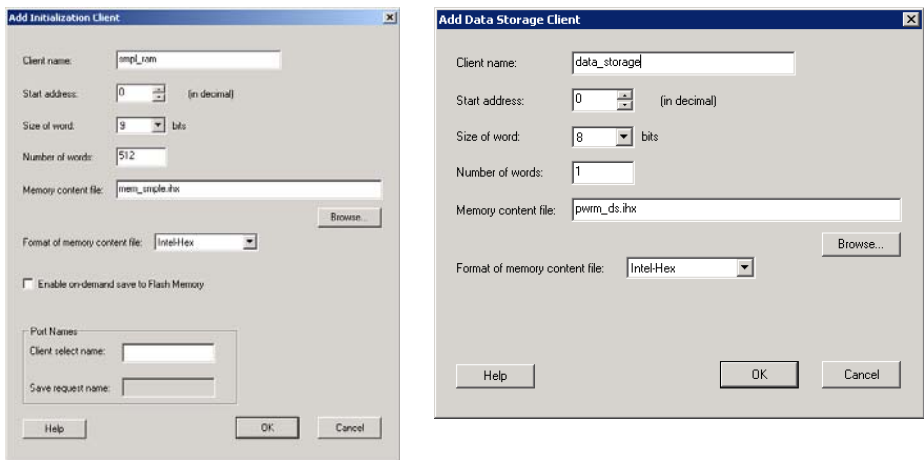

Figure 1-18. Add Initialization/Data Storage Client Dialog Boxes
3. Enter your parameters (as shown in Figure 1-18 on page 24). The Memory Content File is the content for the Embedded Flash to initialize this client. It can be specified in one of the supported memory formats (Binary, Intel_Hex, MotorolaS, Simple_Hex). You can manually generate a sample memory file following one of the supported file formats.